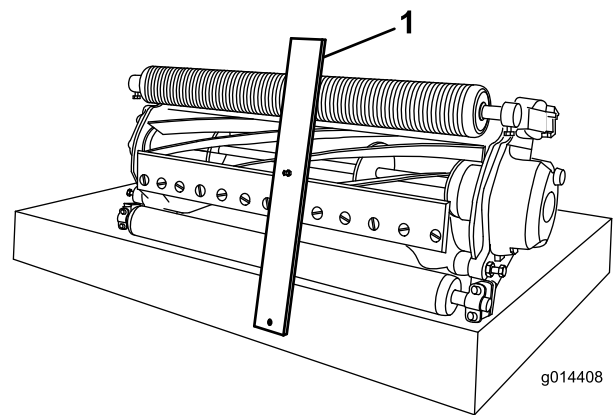

Figure 10
3. Hook the bolt head onto the cutting edge of the bedknife and rest the rear end of the bar onto the rear of the roller (Figure 10).